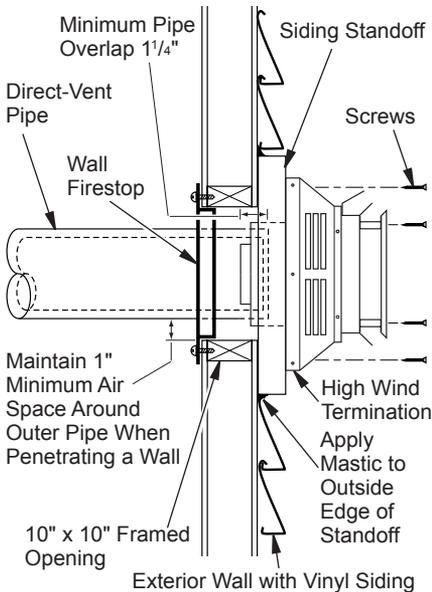

Figure 13 - Typical Horizontal Termination Cap Mounting with Additional Siding Standoff Installed
- Carefully move fireplace, with vent assembly attached, toward wall and insert vent pipe into horizontal termination. The pipe overlap should be a minimum of 1 ¹/₄" (see Figure 13, page 11).
- Combustible Exterior Wall Only:** Slide wall firestop against interior wall surface and attach with screws provided. See Figure 13, page 11, for horizontal termination details.